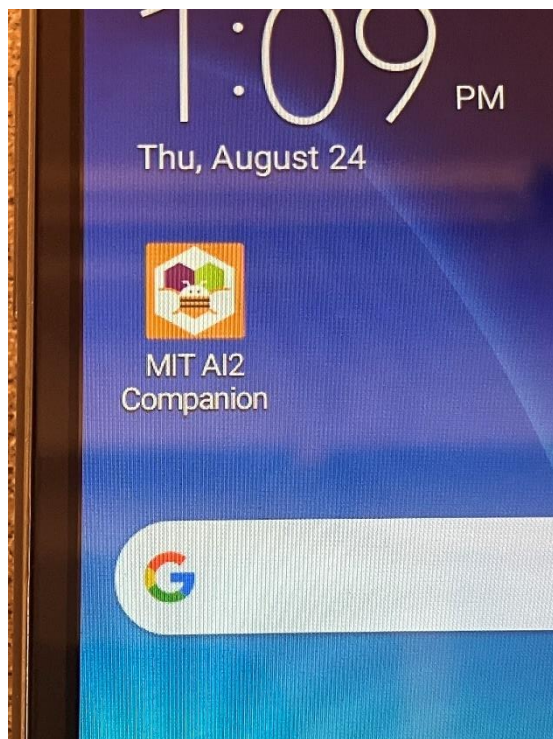

Figure 4: MIT AI2 Companion App
4. On the android PlayStore, install the app: MIT AI2 Companion (refer to Figure 4)